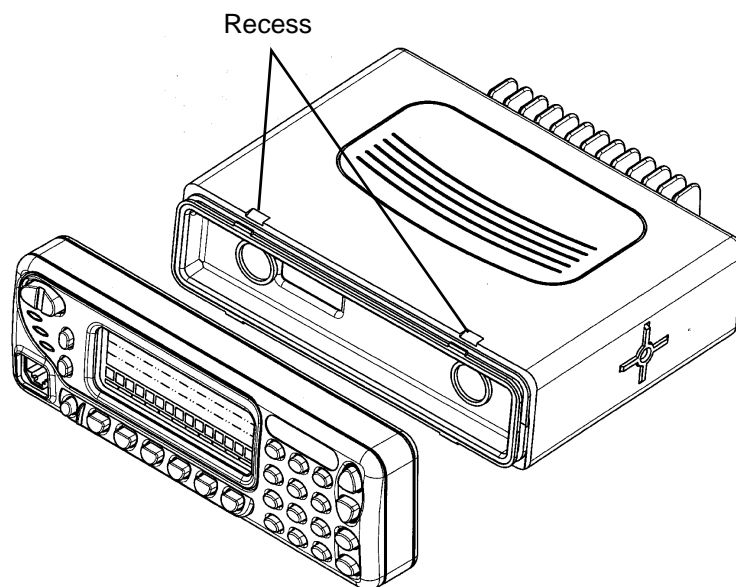

Figure 2-5 Control Head Replacement.
- Press the control head onto the radio chassis until the protruding tabs on the chassis snap into the recesses inside the control housing, see Figure 2-5.